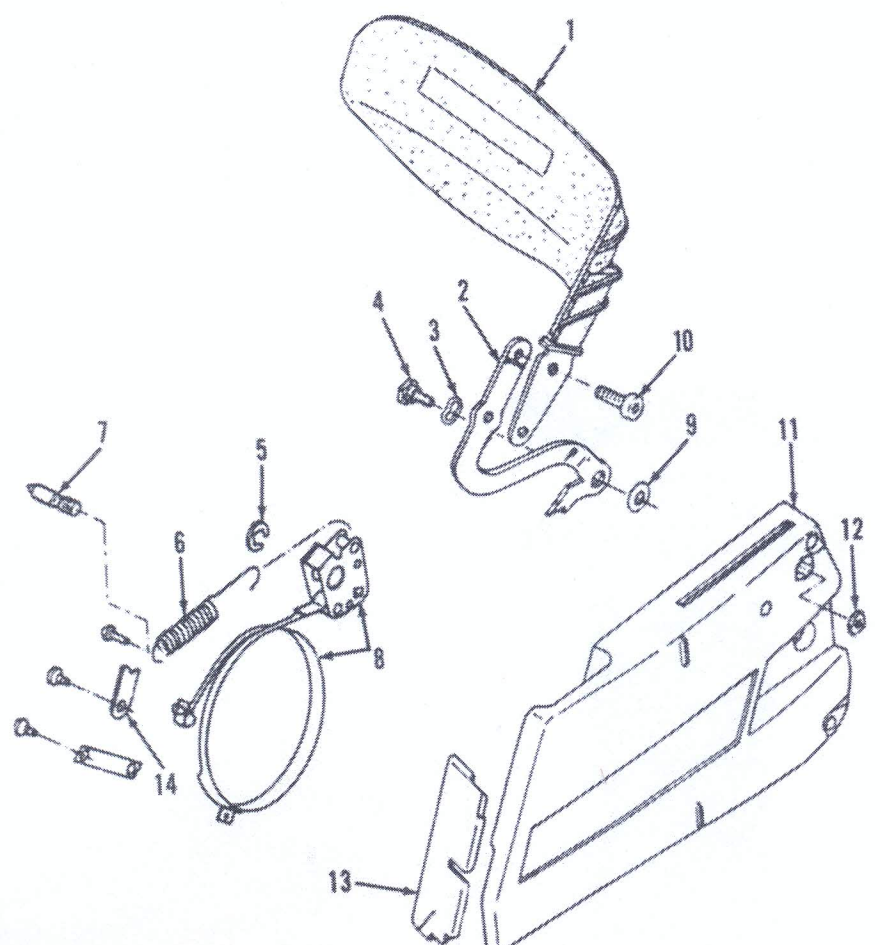

Fig. D117—Exploded view of the chain brake assembly.
CHAIN BRAKE. The chain brake assembly is designed to stop the chain quickly should kickback occur. The chain brake is activated when the operator's hand strikes the hand guard (1—Fig. D117). When the brake system is activated, spring (6) draws the brake band (8) tight around the clutch drum. To release the brake, pull the hand guard back until the mechanism is reset.
The chain brake must be released before the housing (11) can be removed. To disassemble, push brake lever (2—Fig. D117) forward to relieve spring tension. Unscrew shoulder bolt (4) and remove lever (2). Unhook spring (6) and remove from housing. Disengage "E" ring (5) and withdraw brake band (8).